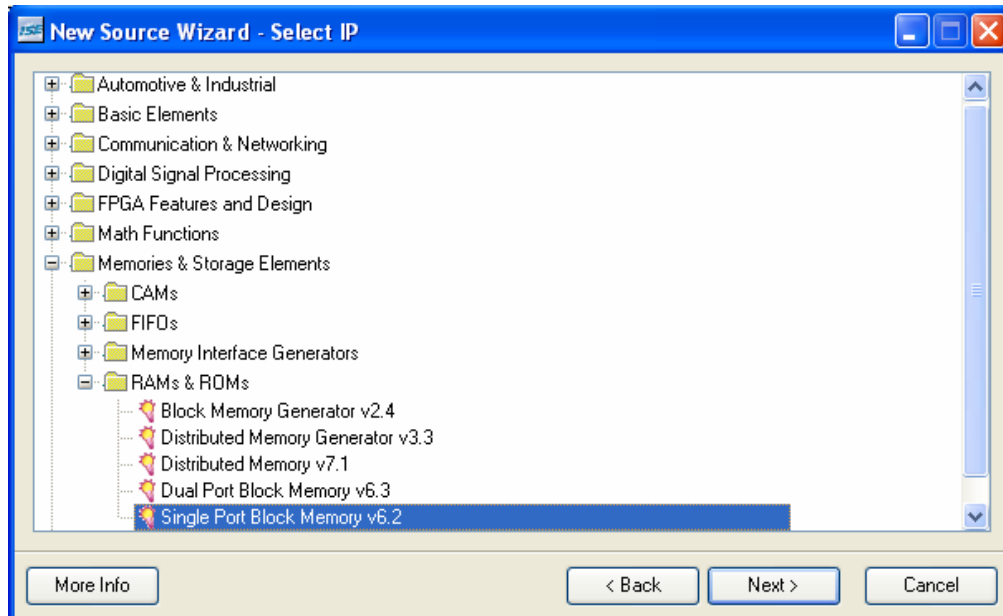

Figure 3. IP selection.
c. Select **Single Port Block Memory v6.2** in the submenu **RAMs & ROMs** under the **Memories & Storage Elements** option (Figure 3). Select **Next**, then **Finish**.